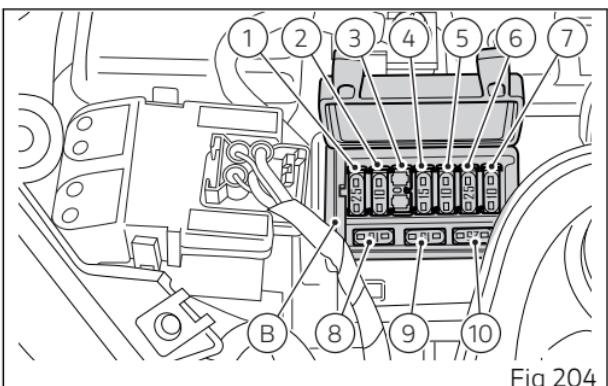

Fig 204
The main fuse (C) is located on the right side of the fuse box (B Fig 204), on solenoid starter (D).